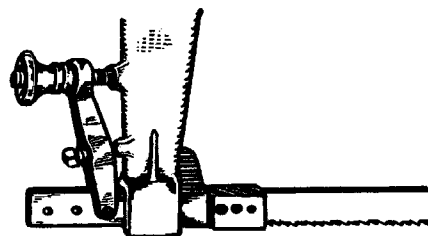

FIG. 3 TENSION CLAMP
2. Release tension clamp (Figure 3). Adjust for length of saw blade.